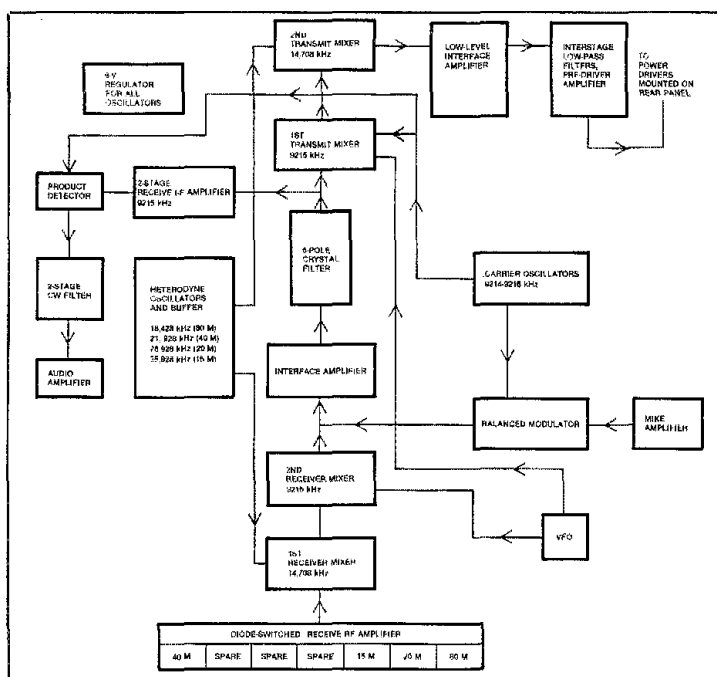

Fig. 1 — A block diagram of the author's homemade transceiver.
Several goals were established: (1) tuning must be consistent from band to band and progress from left to right (using a slide-rule dial), with the lower-frequency end on the left; (2) all tuned circuits must present negligible levels of unwanted signals, especially in the mixer; (3) remote-diode or transistor switching would be employed for all low-level, multiple-frequency or multiple-function circuits. A block diagram of the transceiver is shown in Fig. 1.